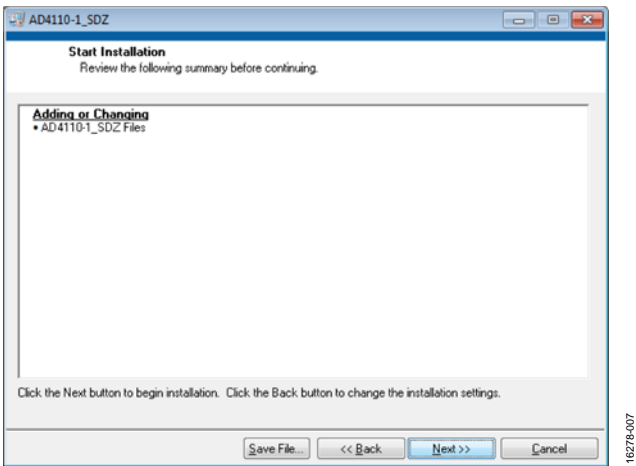

Figure 7. Installation Summary Window
7. A summary of the installation is displayed. Click **Next>>** to continue (see Figure 7).